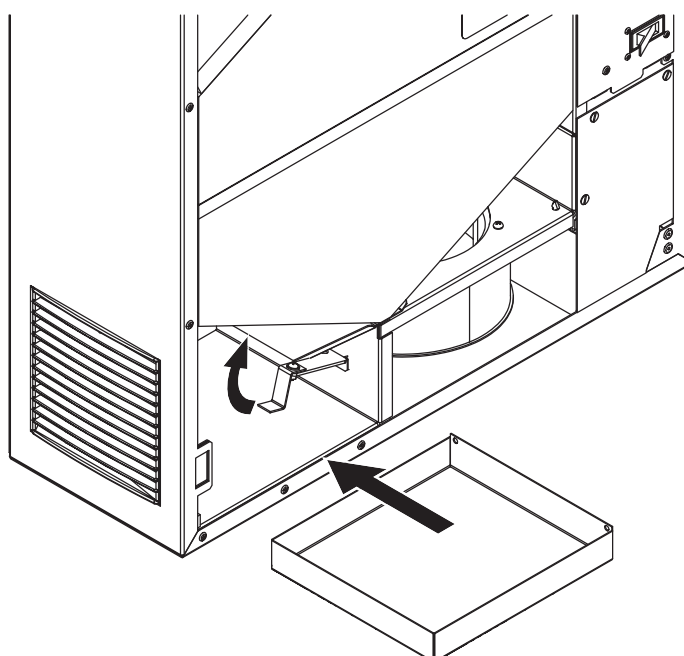

Fig. 18. Drain pan installation
5. Empty the drain pan, lift the condensate level switch and reinstall the drain pan, Fig. 18.